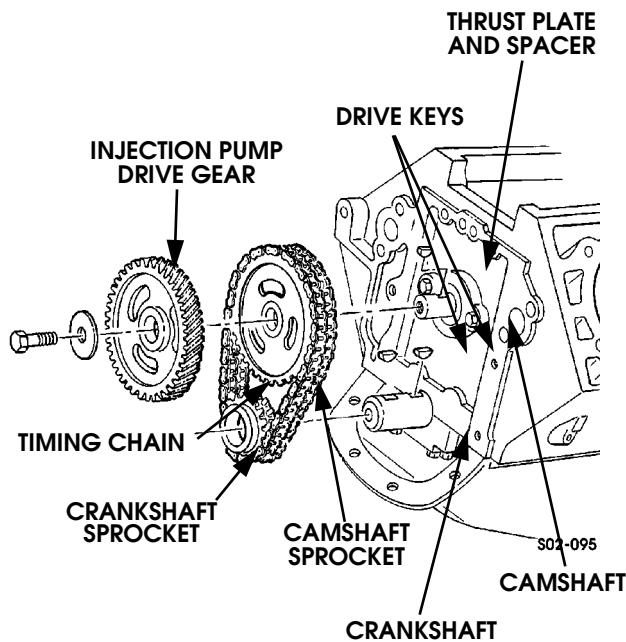

Figure 2-28: Timing Chain, Sprockets, and Drive Gear Installation
4. Assemble and install timing chain and sprockets (Figure 2-28). Check timing mark alignment before proceeding.
5. Install injection pump drive gear on camshaft (Figure 2-28). Timing mark on gear should be facing upward (12 o'clock position). Then install drive gear attaching washer and bolt. Tighten bolt to 55-60 lb-ft (75-81 N•m) torque.